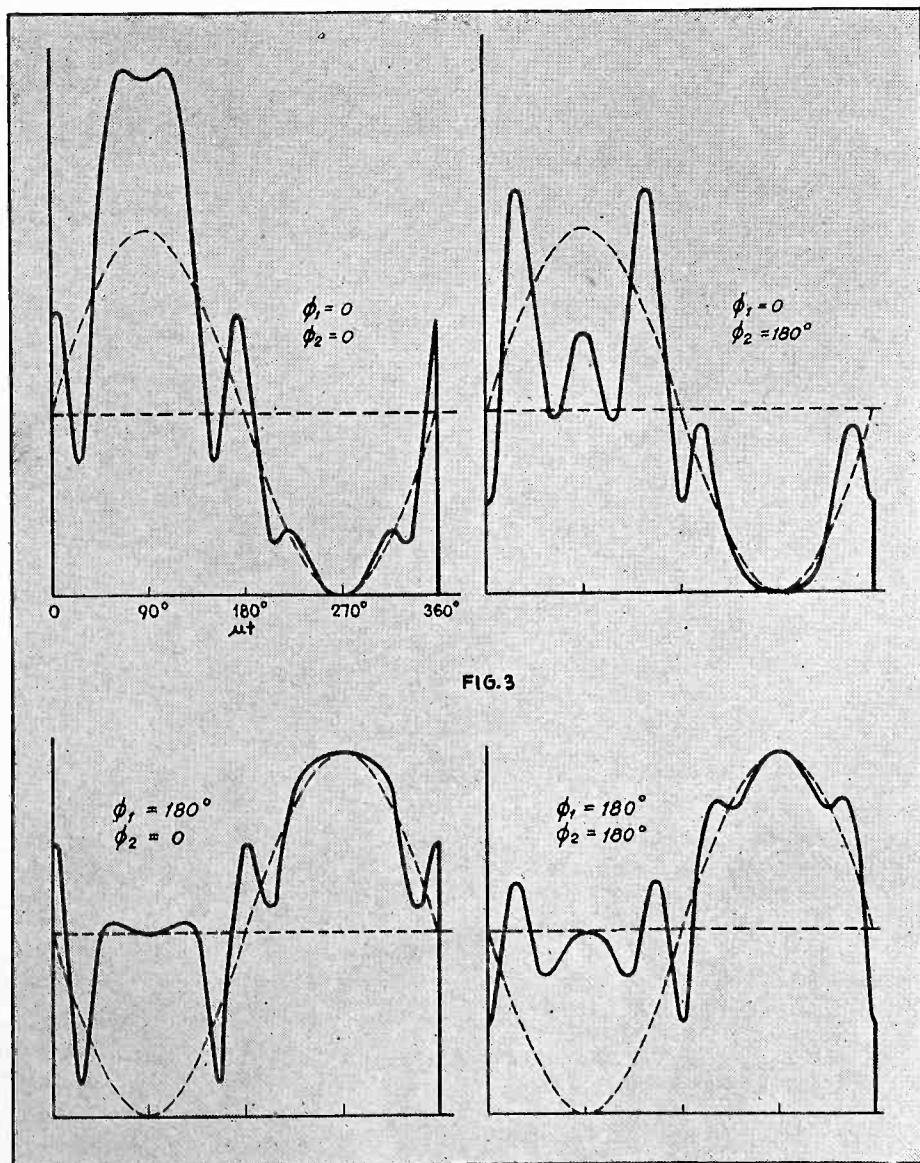

Fig. 3—Envelopes of amplitude modulated signal with (solid) and without (dotted) noise superimposed
The noise voltage is likewise in two parts, N and $N \sin \mu t$, but since it is both frequency and amplitude modulated, is performing a pendulum motion while contracting and expanding. The instantaneous phase angle, which measures the pendulum motion, is $n \sin \mu t$ radians, the phase changing from $+n$ to $-n$ radians $\mu/2\pi$ times per second. The length of the noise vector expands to $2N$ and contracts to zero, $\mu/2\pi$ times per second. During one audio cycle, the end of the noise vector $N (1 + \sin \mu t)$ describes a spiral. The vector addition of both the noise and desired signals yields the resultant signal R , which may be plotted versus time over one audio cycle, thus giving the desired envelope of Eqs. (1) + (2). Figure 3 shows the resulting envelopes for various values of the angles ϕ_1 and ϕ_2 , under the conditions that $N = S/2$ (noise amplitude one half of signal amplitude) $K = 1$ (100 per cent modulation of signal carrier) and $n = 7$ radians (as above). The heavy lines in Fig. 3 give the resultant envelope, the dotted lines the undisturbed signal envelope. It is evident that the harmonic content of the resultant envelope is excessive, that is, that the desired signal is badly damaged if not rendered completely useless by the superposition of the noise voltage.